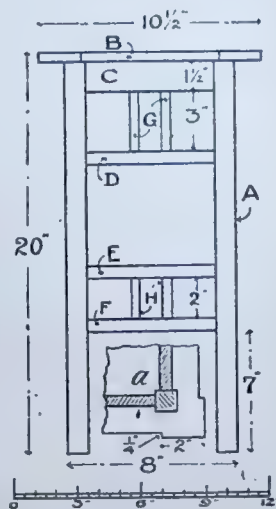

FIG. 9.—PLANT STAND—ELEVATION AND DETAIL. (See Perspective Sketch on previous page—Fig. 5.)
must also be mortised for the rails, C, D, E and F. THE TOP (B), finishing ½ in. thick, is 10½ ins. square, but is cut with projecting corners as shown in the part plan *a* at Fig. 9. The corners may be 2 ins. each way, with a break of ¼ in. Shallow mortises will be cut in the underside to take the legs.
give a fair amount of work with the chisel, but the arrangement is remarkably effective and well worth the effort. Referring to Fig. 9, the various parts are these:—
THE LEGS (A, Fig. 9), 1 in. square throughout, should have short tenons to enter the top. They